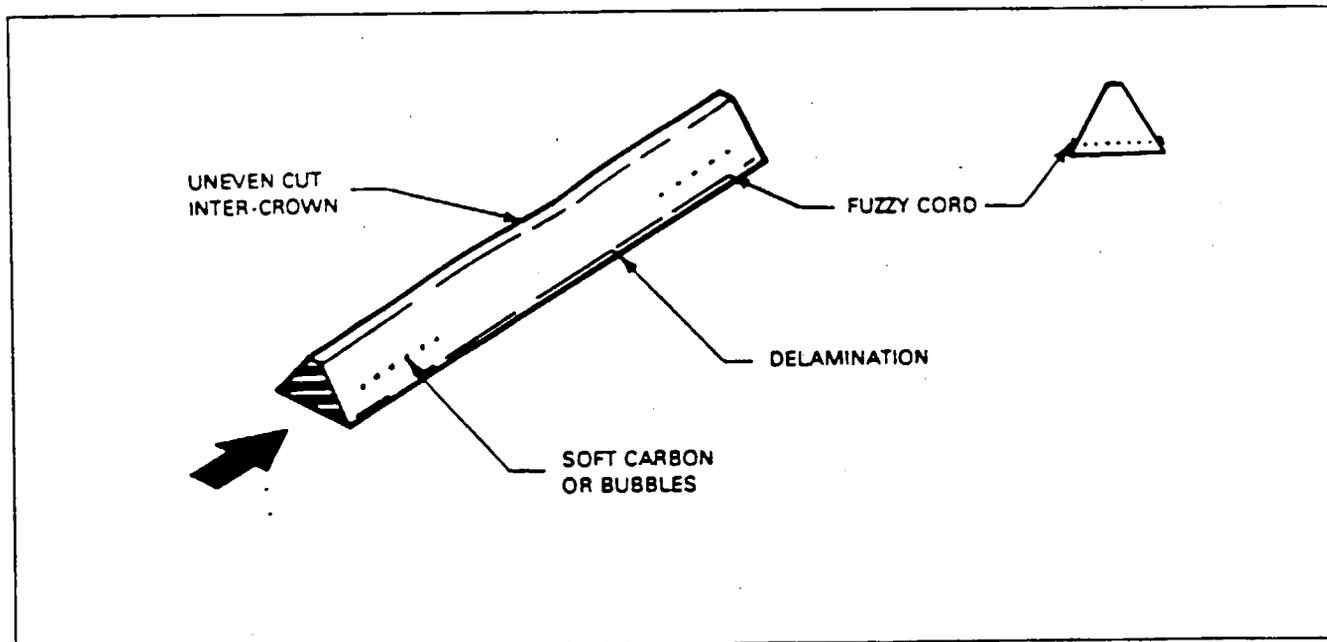

Figure 21-29. Belt Inspection
**BELT INSPECTION.** (Refer to Figure 21-29.)